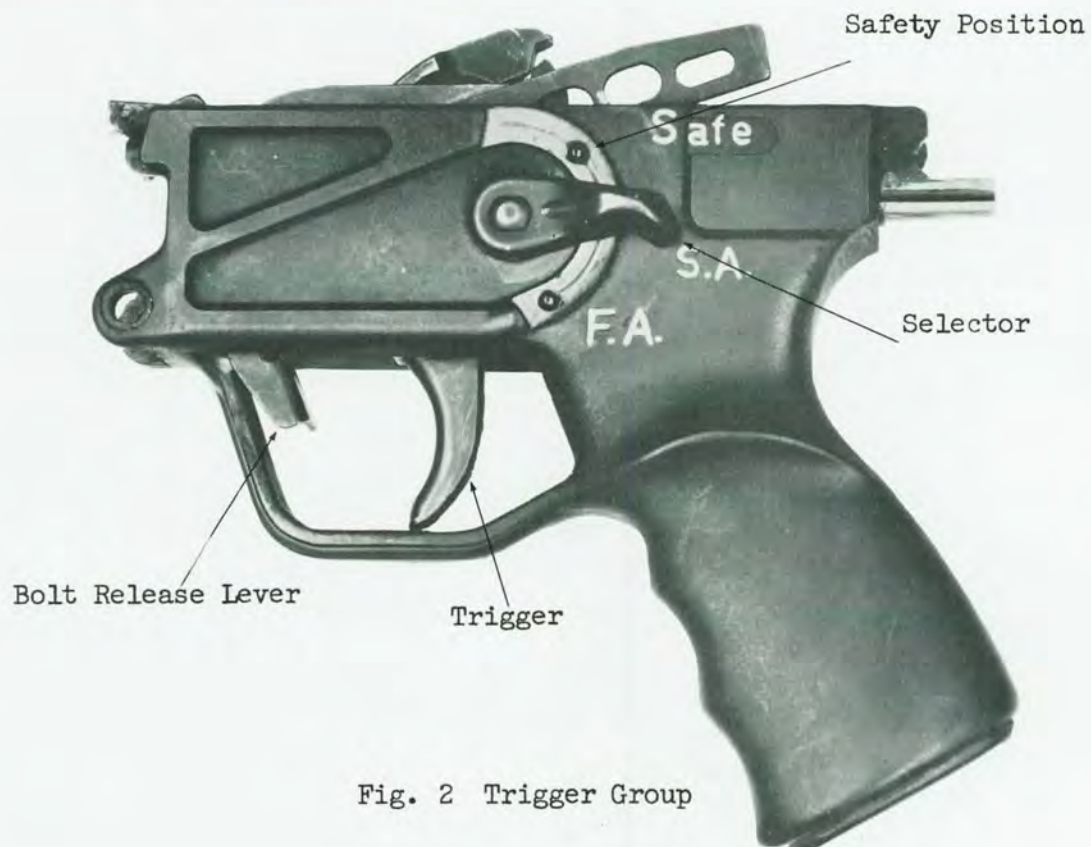

Fig. 2 Trigger Group
a. The selector (fig. 2) is located on the left side of the receiver below the rear sight. Its function is to regulate the firing of the rifle as a semi-automatic or automatic weapon.
a. The trigger (fig. 2) is located inside of the trigger guard and is part of the firing mechanism. Its function is to control the firing of the rifle for both semi-automatic and automatic.
a. The safety (fig. 2) is located on the left side of the receiver, below the rear sight, and integral with the selector. Its function is to lock trigger, sear, and hammer, preventing firing of rifle.